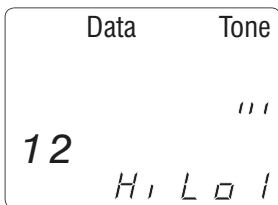

Figure 11. Tone Mode with Data Cable Selected and Hi-Lo1 cadence
5. Press the cable type button again to select different combinations of pins to carry the tone signal. Each press of the cable type button steps you through the cable's wire pairs. The selected pin pair appears in the Wire Map. Figure 11 shows pin pairs 1 and 2 selected for testing a data cable.